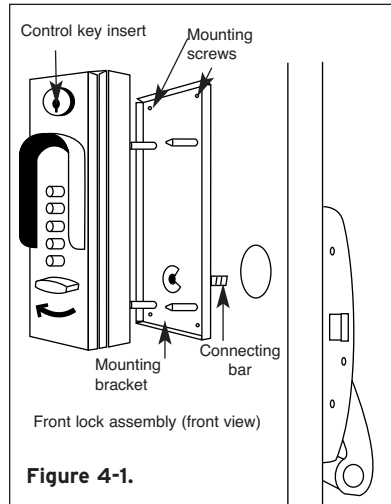

Figure 4-1.
- 2) Hold the mounting bracket against the door while making certain that the connecting bar is centered in the exit device hub and the mounting bracket is parallel with the vertical edge of the door. Use the center punch to make starter holes for the mounting screws (see Figure 4-1).